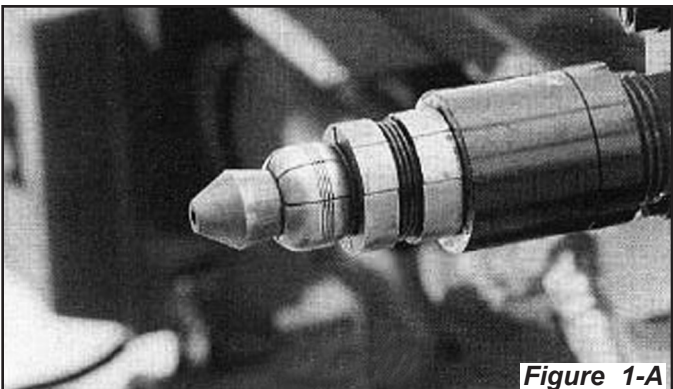

Figure 1-A
1. Slide the proper size ball-joint segment set over the arbor. (See figure 1-A)